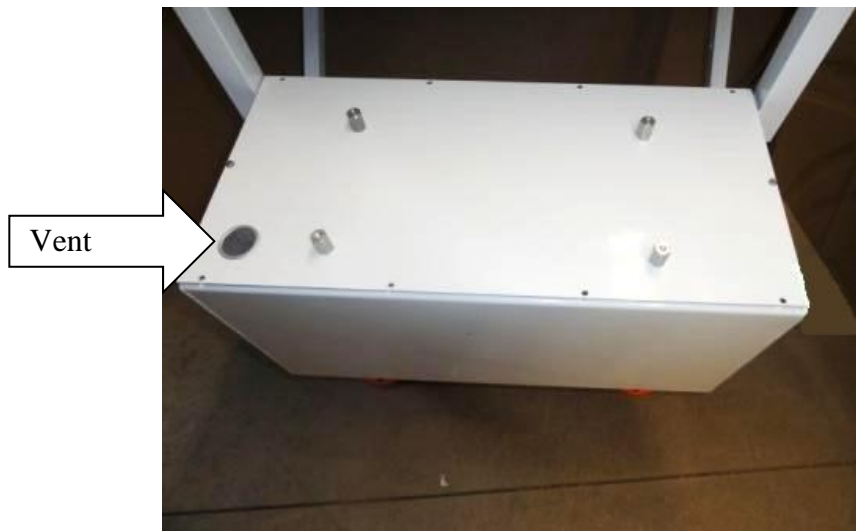

Figure 8a. Cover Installation
2. Locate the enclosure cover vent, as shown in Figure 8a. Orient the enclosure cover as shown, positioning the vent next to the enclosure wall opposite the photocell.
3. Place the cover on the enclosure, as shown in Figure 8a, aligning the mounting holes in the cover with the holes in the enclosure.